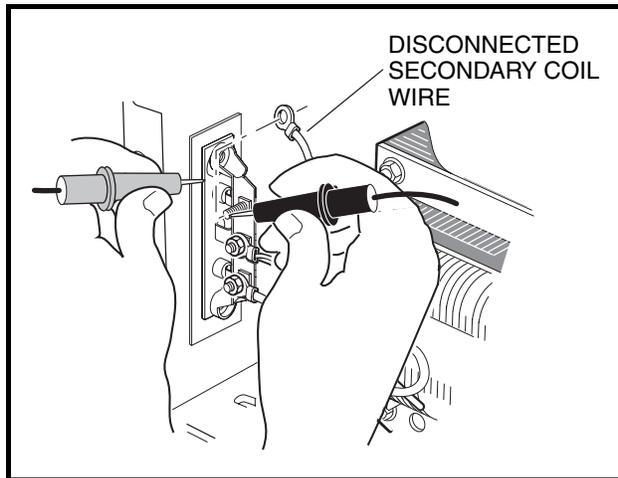

Figure 3-13 Diode Test
3. Disconnect one transformer secondary coil wire from the diode terminal (**Figure 3-13, Page 3-17**).
4. Using a low voltage continuity tester or multimeter set to the diode test function, connect the red (+) test probe to the diode mounting plate and the black (–) test probe to a diode terminal and note the reading (**Figure 3-13, Page 3-17**).